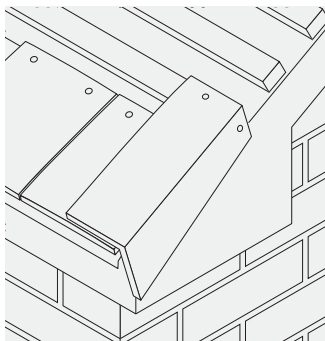

Fig. 51 – Eaves course
- 2 Commence laying an under eaves course of tiles using a standard eaves tile or a cloak verge tile cut down to size (Fig. 51, page 66). Where possible use a standard eaves tile, but establish what will be required for the top course at the roof apex, to ensure that the same unit is provided on both sides of the apex. In this way, opposite gable ends can be constructed with cloak verge tiles in different courses, but will still maintain a balanced appearance when viewed from the ground.
- 4 Nail the eaves cloak verge tile with 2 No. 38mm x 3.35mm aluminium or stainless steel ring shank nails to both top and end of the tiling batten using the holes in the top and vertical leg (Fig. 51). Alternatively, if the verge construction allows, a timber batten can be secured to the outer edge of the bargeboard or gable wall to assist nailing the vertical leg of the cloak verge tile (not shown).